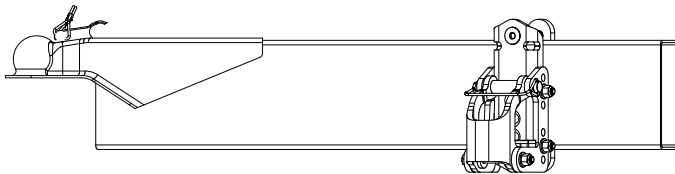

Fig. 1
- 1** The Eaz-Lift TR3 can be installed on top-mount or bottom-mount coupler style trailers (See Fig.1). The included Hook-up Bracket Assemblies (6) are pre-assembled in the top-mount coupler configuration. If a bottom-mount coupler configuration is needed, the Side Straps can be exchanged with the included Bottom Mount Side Straps (6c) as instructed below.